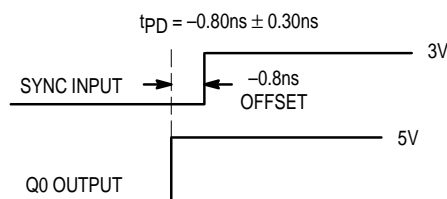

Figure 2. Depiction of the Fixed SYNC to Q0 Offset (t_{PD}) Which Is Present When a $1\text{M}\Omega$ Resistor Is Tied to V_{CC} or Ground
- A $1\text{M}\Omega$ resistor tied to either Analog V_{CC} or Analog GND, as shown in Figure 2, is required to ensure no jitter is present on the MC88920 outputs. This technique causes a phase offset between the SYNC input and the Q0 output, measured at the pins. The t_{PD} spec describes how this offset varies with process, temperature, and voltage. The specs were arrived at by measuring the phase relationship for the 14 lots described in note 1 while the part was in phase-locked operation. The actual measurements were made with a 10MHz SYNC input (1.0ns edge rate from 0.8V to 2.0V). The phase measurements were made at 1.5V. See Figure 2 for a graphical description.